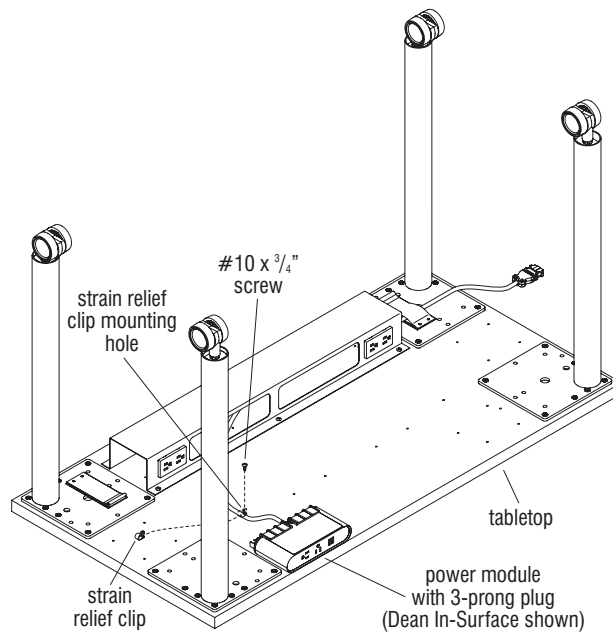

Figure 7
1. Locate strain relief clips and position them at the desired locations above unused pre-drilled holes (Figure 7 & Detail B).
2. Insert the cable into the openings of the clips. Secure the clips to the tabletop using one #10 x $\frac{3}{4}$ " screw per clip (Figure 7 & Detail B).